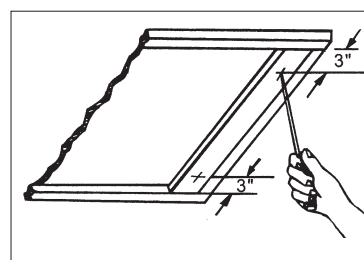

Fig.6
- b. Start a 1¼" long wood screw (purchased locally) about 3" from each end of the 1"x2" wood strips (Fig.6)